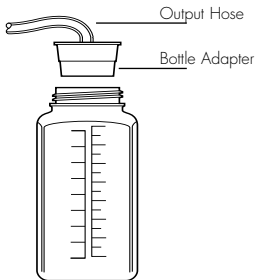

Figure 2-1
The EasyFill Bottle Adaptor (Figure 2-1) conveniently attaches directly to different sized water containers.
2. Insert the EasyFill Bottle Adaptor into a clean water container or connect hydration connector to bladder\*. (Figure 2-1, 2-2)